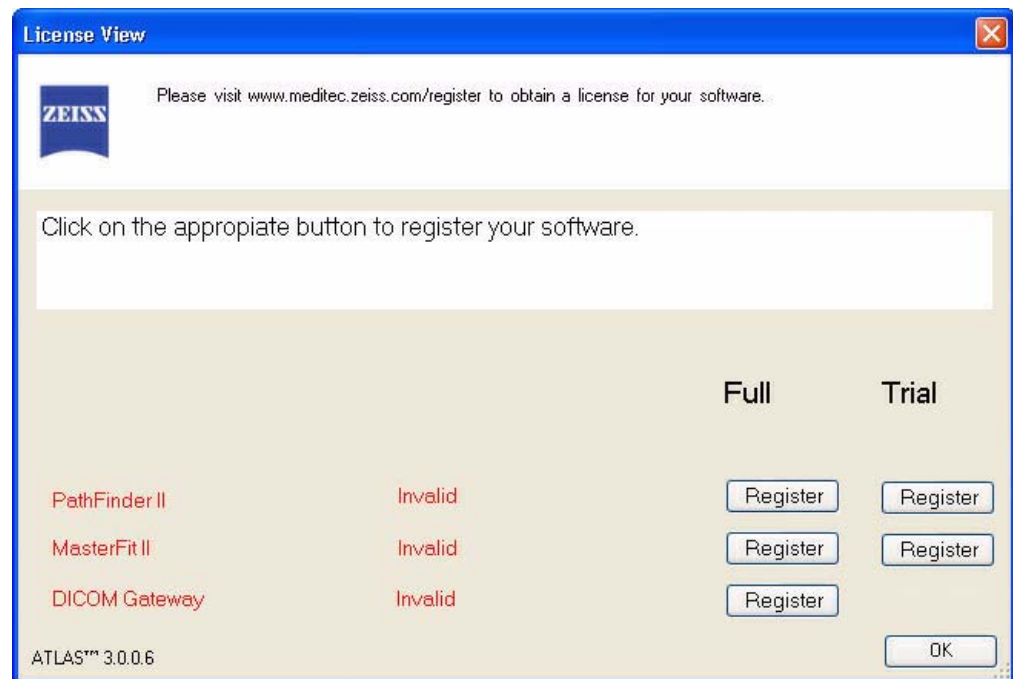

Figure 9 License View Window
3. Select **View Licenses...** on the **Help** menu to display the LICENSE VIEW window (Figure 9).
You can register the optional software features at any time ATLAS Software is running by selecting **View Licenses...** on the **Help** menu. The LICENSE VIEW window will be displayed (Figure 9). If ATLAS is not running, start ATLAS by **double-clicking** the ATLAS Software icon on the desktop. You may need to logon with a User Name and Password.